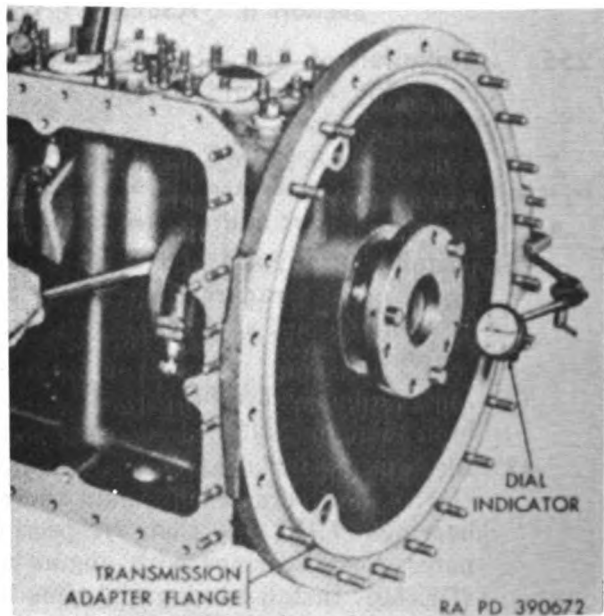

Figure 171. Checking crankshaft end play.
- (9) Install eight $\frac{5}{16}$ x $2\frac{1}{32}$ hex-head bolts (FF) and $\frac{21}{64}$ id, $\frac{9}{16}$ od, 0.0630 thick flat washers (X) through holes in crankcase top flange, from left crankcase side. Secure bolts with $\frac{5}{16}$ -inch hex self-locking nuts (B), or $\frac{5}{16}$ -inch hex nuts (B), and $\frac{21}{64}$ id, $\frac{9}{16}$ od, 0.0630 thick flat washers (C). Tighten nuts snugly but do not torque.
- (10) Before proceeding further with assembly of crankcases, check crankshaft end play as described in (a) and (b) below.
- (a) Install a dial indicator on transmission adapter flange, with needle of indicator touching flywheel mounting flange on crankshaft as shown in figure 171.